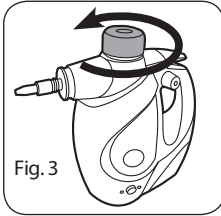

Fig. 3
1. Place the steam cleaner on a level surface. If you fill the water tank during or after use, see "Refilling Water During Operation" instructions. After you have ensured the steam cleaner has cooled and pressure has been released, the water fill safety cap should turn freely for removal. Unscrew the water fill safety cap counter-clockwise (Fig. 3).